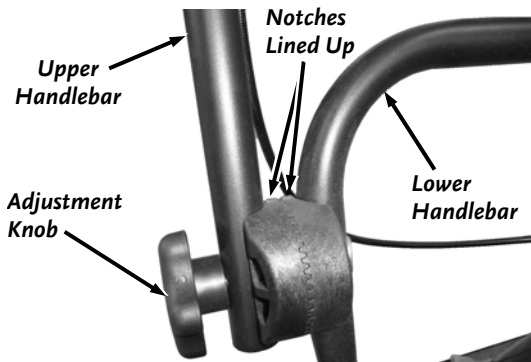

Figure 4
1. Loosen both the Adjustment Knobs and move the Handlebar up or down until the Notches on the Adjusters are aligned on both sides and tighten the Knobs (Figure 4). This puts the Handlebar at a comfortable operating position for many people.